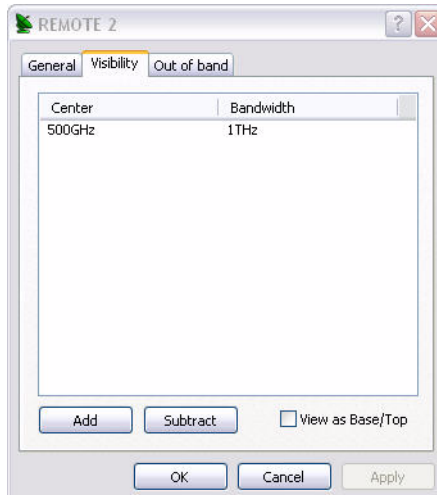

Figure 3-17 Antenna Visibility, Default Settings
4. Select the **Visibility** tab to configure the **Antenna Visibility** range, as shown in figure 3-17.